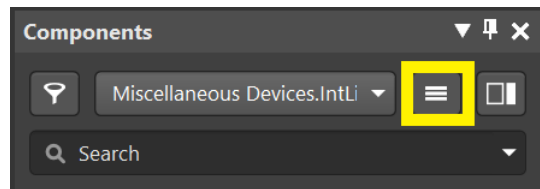

Figure 8: Button to select to add libraries
2. The Components tab should appear. Select the button with the three horizontal lines near the top of the sidebar, as shown in Figure 8.